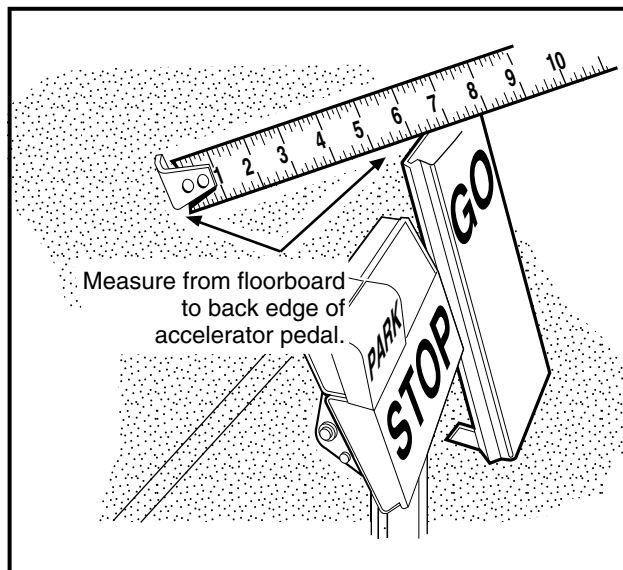

Figure 5-28 Accelerator Pedal Height Measurement
- 4.3. With the park brake unlocked, measure and note the distance from the top of the accelerator pedal to the floorboard, and then lock the park brake (**Figure 5-28, Page 5-19**).